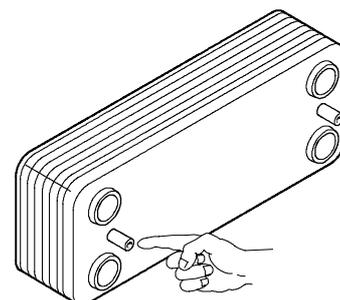

Fig. 5
**Attention.** When reassembling the exchanger be sure to put the off center location/securing pin indicated in Fig. 5 towards the left side of the boiler.